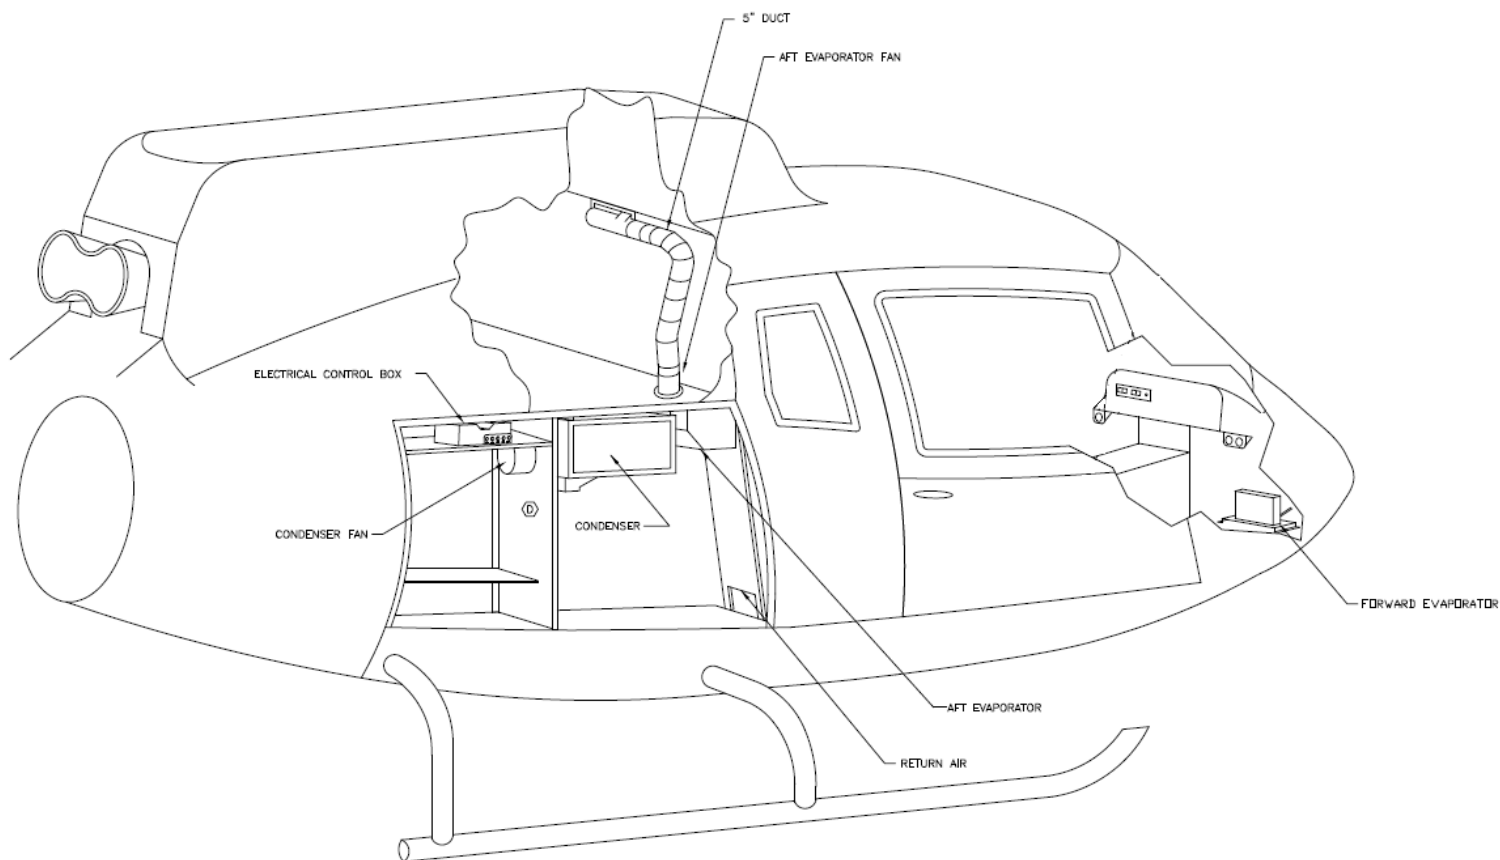
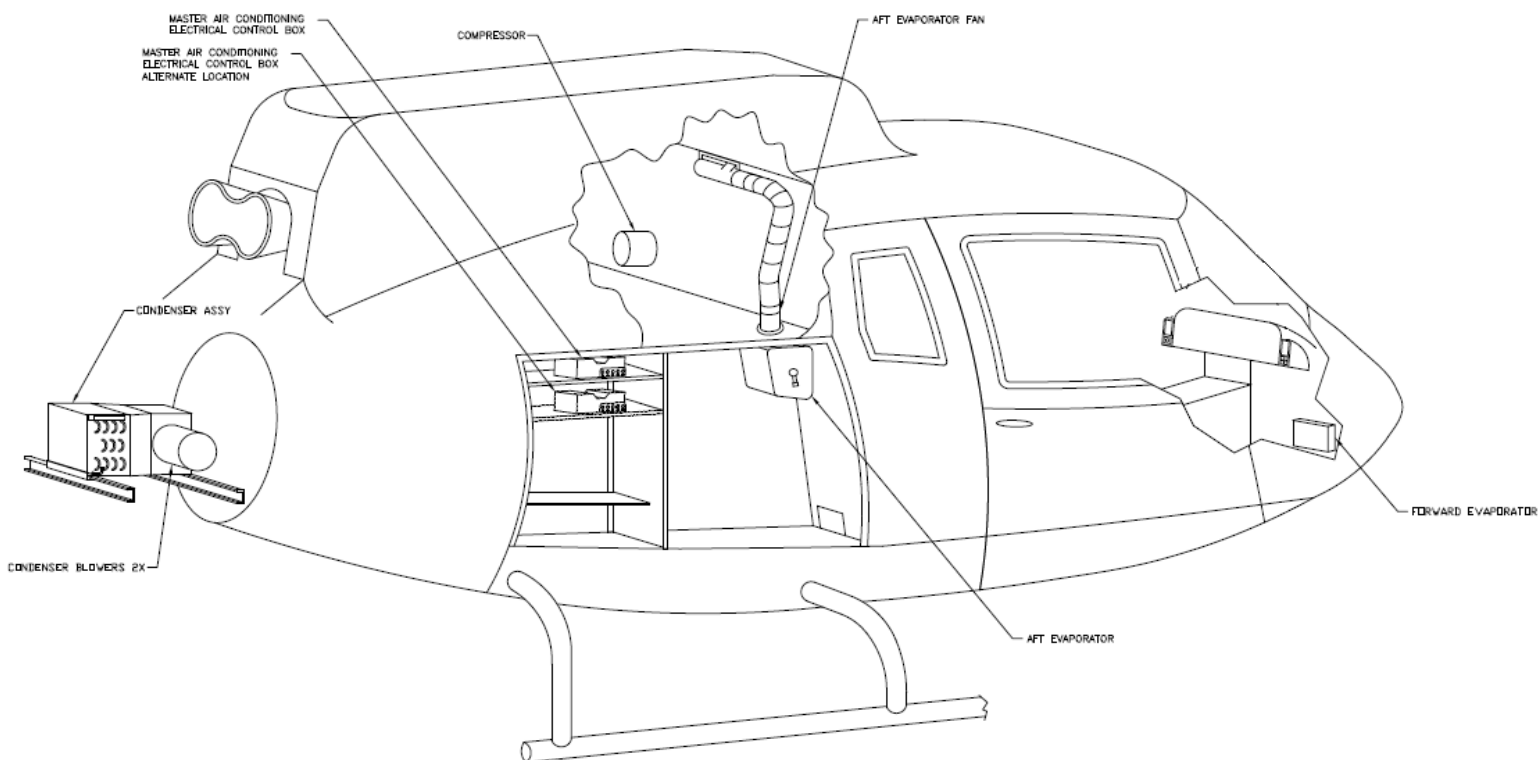

Figure 21-01
Figure 21-02
- **Condenser**- The condenser is located in one of two positions depending on kit part number (Ref. table 21.1). The aft mounted condenser (Ref. figure 21-01) is mounted in the tail boom mounted 5 in. above the baggage floor. The side mounted condenser is located in the right baggage compartment (Ref. figure 21-02). The EC-130 condenser is only located in the aft mounted configuration. The aft mounted condenser assembly has two blower motors, where as the side mounted condenser assembly only has one blower motor.
350-00-011-HP	Side Mounted Condenser (Ref Figure 21-01)
350-00-031-HP	Aft Mounted Condenser (Ref Figure 21-02)
130-00-031-HP*	Aft Mounted Condenser (Ref Figure 21-02)